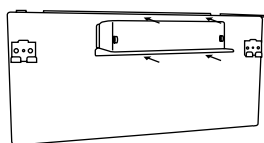

Fig.3
- (3) Fit the ducting flange using the four supplied 4 × 10 PTT screws (see Fig.3).